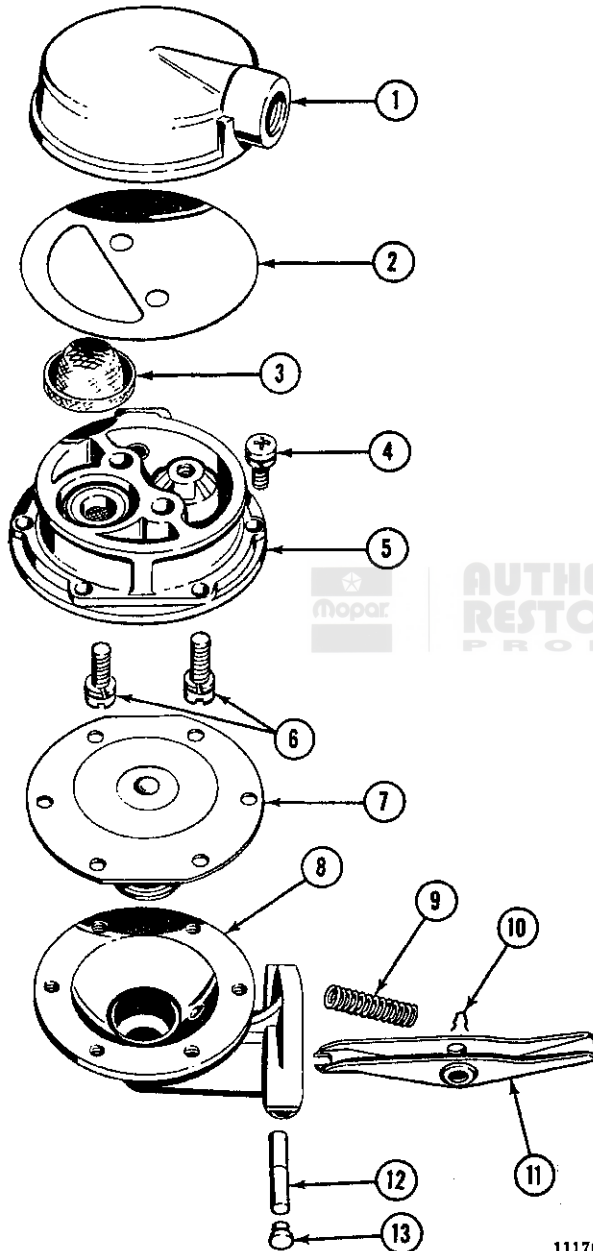

FIG. E-30--FUEL PUMP--HURRICANE
Vehicles with electric windshield wiper motors are equipped with a single-action fuel pump (Fig. E-30). The fuel pump cam lever is activated by an eccentric on the engine camshaft. When the carburetor float needle valve closes, accumulation of fuel in the pump extends the diaphragm spring. This action causes the rocker arm linkage to become inoperative until the pressure on the diaphragm and spring is reduced. The fuel pump discharge pressure is thus controlled by the diaphragm spring. This provides a steady supply of fuel to the carburetor at a fairly constant pressure.
a. Before disassembly of the fuel pump, mark the three castings (see Fig. E-30) to ensure positioning in the same relation upon assembly.